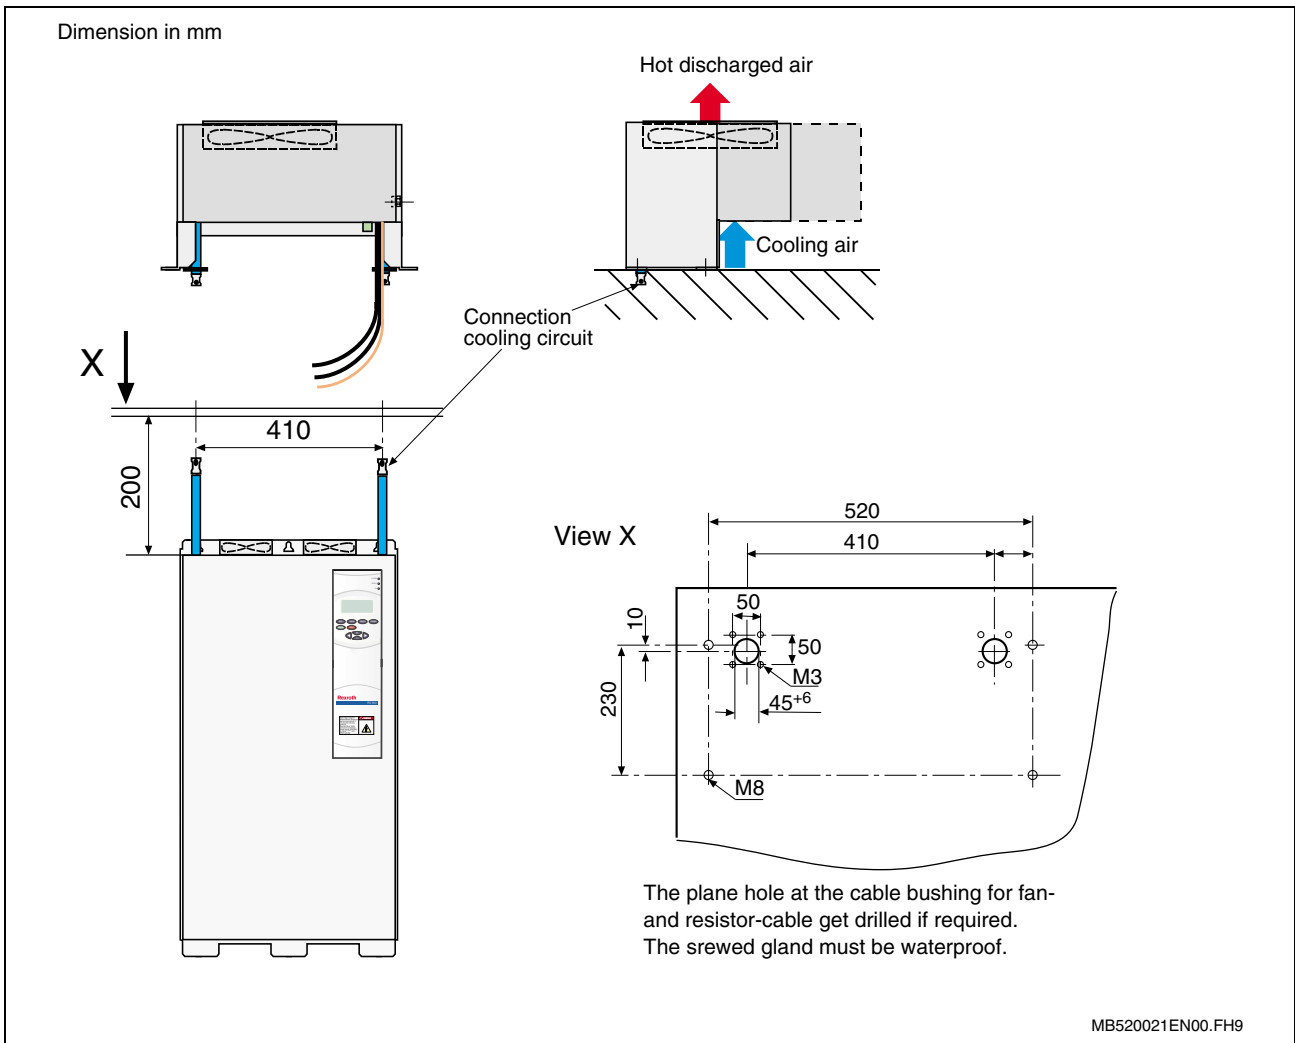

Fig.: 5-22 Dimension sheet for cabinet roof mounting, size class G
- Attach the external heat exchanger to the desired location. This can be mounted on the roof or wall of the cabinet. See Fig.: 5-22 . Additional technical data are described in documentation DOK-RD500*-RD500*SUPPL-FKxx-EN-P (Accessories).